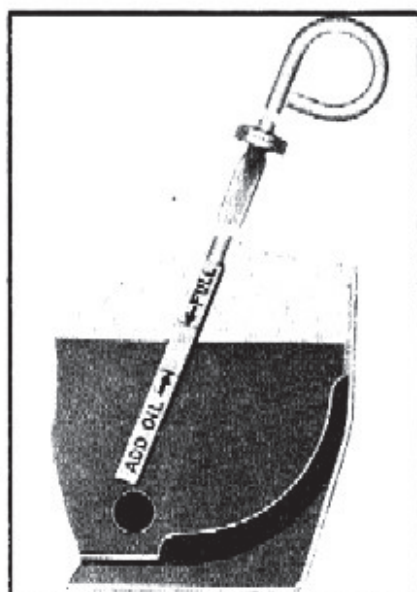

Fig. 81—Oil Gauge Rod in Pan
**Maintaining Oil Level.** The Oil Gauge Rod (fig. 81) is marked "Full" and "Add Oil." These notations have broad arrows pointing to the level lines.